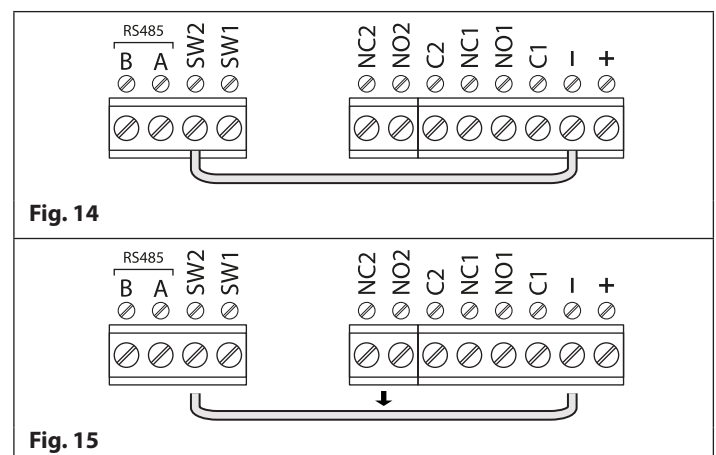

Fig. 15
6. Release button 1  and remove the short between terminals - and SW2, see **Fig.15**, page 16;
6. Release button 2  and remove the short between terminals - and SW2, see **Fig.15**, page 16;
5. After the red status LED stops flashing remove the short between terminals - and SW2 (**Fig.15**, page 16) the unit ID has been set.
5. Release the **ENTER**  button then remove the short between terminals - and SW2, see **Fig.15**;